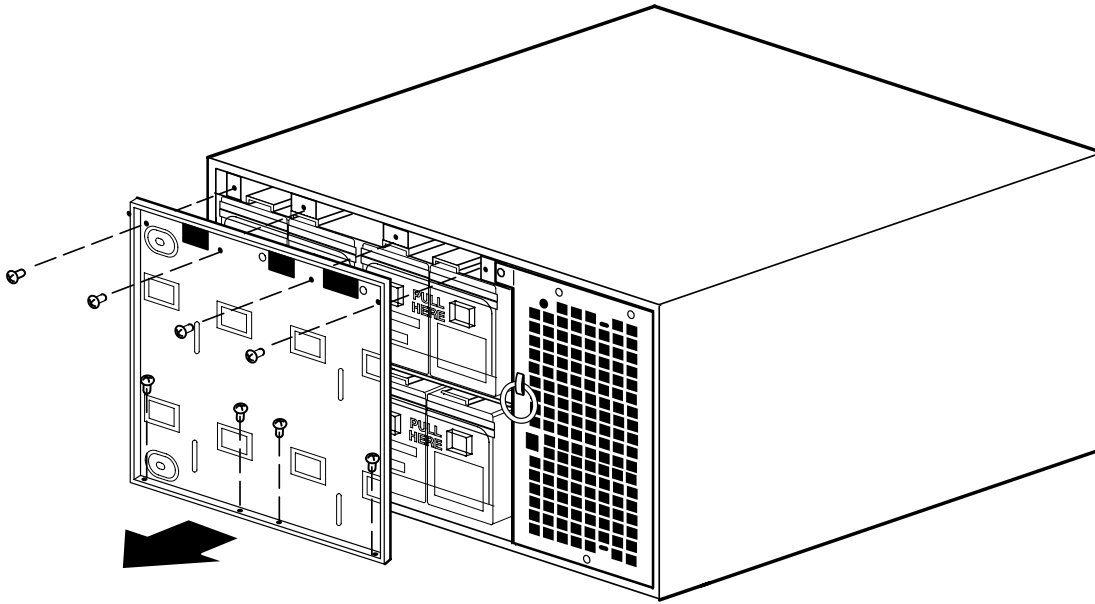

Figure 51. Removing the UPS Battery Cover Plate
3. Remove the eight screws on the battery cover plate and retain. Remove the plate. See Figure 51.